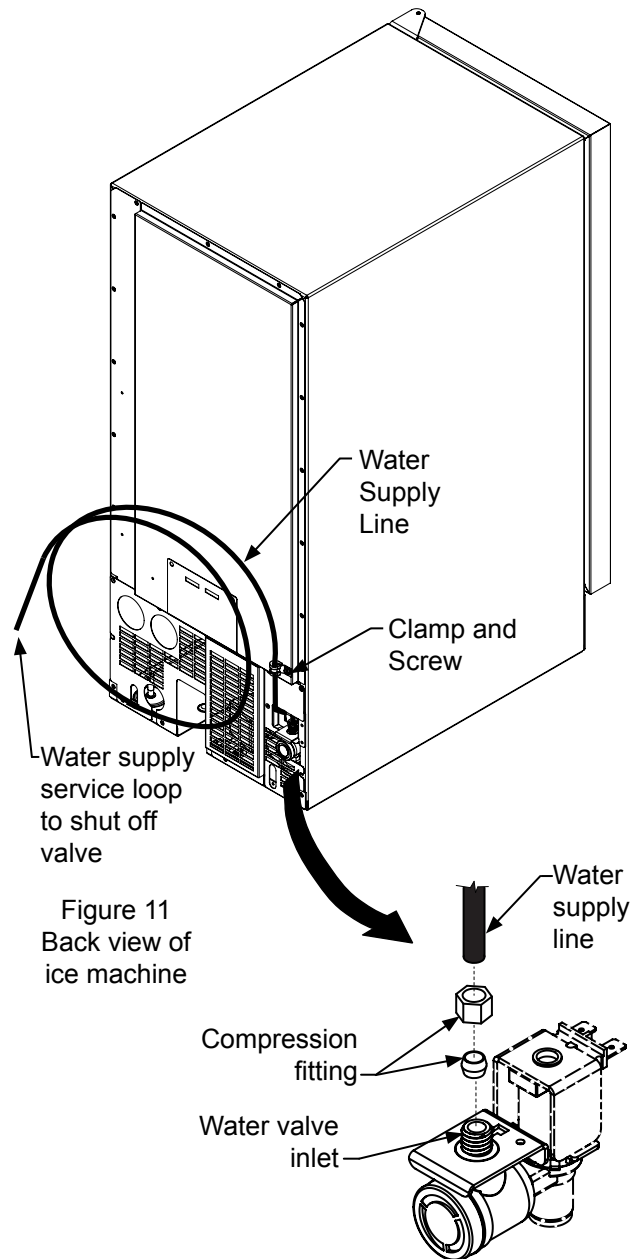

Figure 11
Use 1/4" copper tubing for your water supply which is available at any local hardware or plumbing supply store. Route the 1/4" copper tubing to suit your installation being sure not to kink the tubing. Purchase enough copper tubing length to allow a coil to be formed behind the unit for a "service loop" which will allow the appliance to be pulled out from the installation for servicing or cleaning. (See Figure 11). Connect the copper tubing to the "top side" of a cold water pipe to prevent the ice-maker from plugging with sediment.
**IMPORTANT:** Secure the water supply line to the back of the cabinet with the screw and strain relief clamp provided in the corner of the back panel. (See Figure 11).